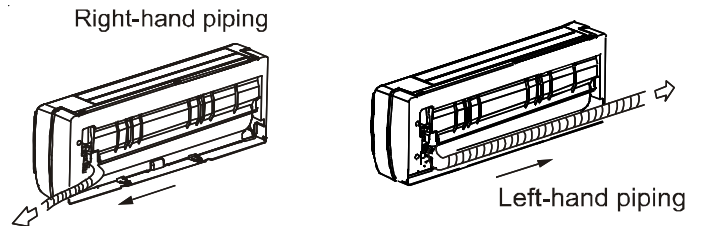

Figure 8
- REFRIGERANT PIPING INSTALLATION:** For the left-hand and right-hand piping, remove the pipe cover from the side panel. (Figure 8.)